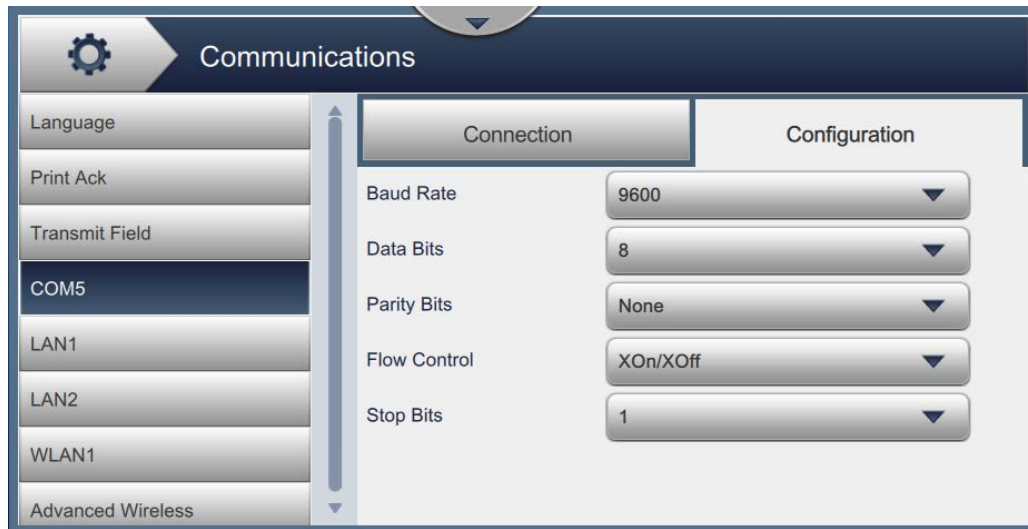

Figure 7-5: COM Settings Screen
7. Select any open COM port and click on *Configuration* tab available in the Communications screen as shown in Figure 7-5.